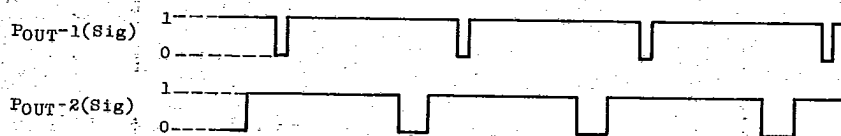

FIG. 3 OUTPUTS OF POUT-1 AND POUT-2
- 2) The signals of POUT-1 and POUT-2 are output with different phases each other as shown in Fig. 3.
"Sig." and "Sig'." are frequency divided outputs of the programmable counter. (Refer to Fig. 3.)